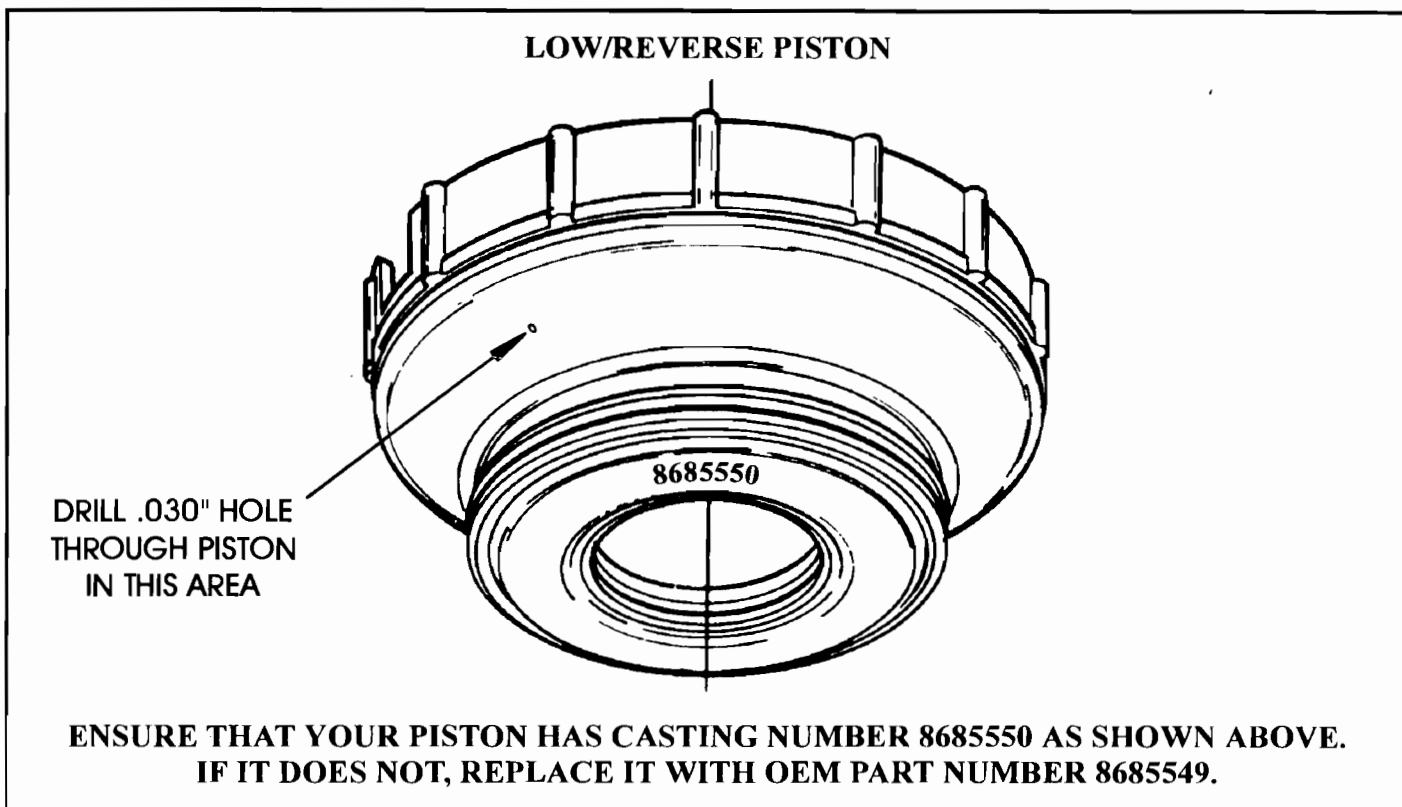

Figure 11
**CORRECTION: STEP 1:** Drill a .030" hole through the Low/Reverse Piston, in the tapered area between the outer seal and the center seal, as shown in Figure 11. This will provide an immediate exhaust path for PR apply oil when the selector lever is placed into the Drive position.